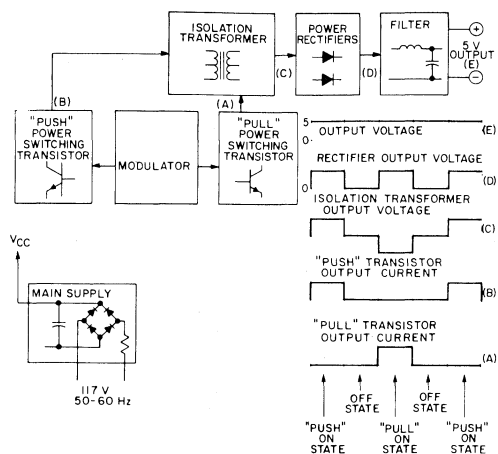

Fig. 1 - Block diagram of switching-regulator power supply, showing voltage waveforms at various points.
In a switching-regulator type of power supply, the output voltage is regulated by a technique referred to as "pulse-width modulation", in which pulses of variable duty cycle are averaged with an inductor-capacitor filter. Regulation is accomplished by the variation of the duty cycle. The pulses constitute a two-state signal (power on and power off) that is supplied to the filter, as shown in Fig. 1. However, to permit use of a smaller isolation transformer, the "power-on" state is operated in a push-pull mode that is then rectified by
The design of a switching-regulator power supply involves the six major elements shown in Figs. 1 and 2: (1)